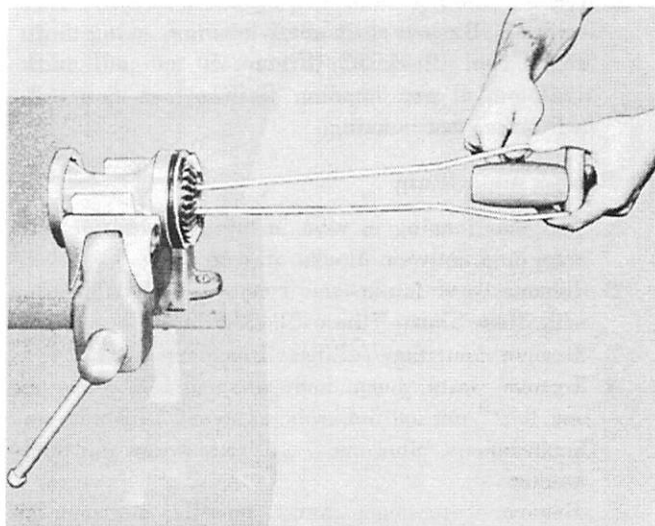

Figure 3. Pulling Reverse Gear From Bearing Carrier
9. Remove reverse gear from bearing carrier with 91-27780 tool, as shown in Figure 3.